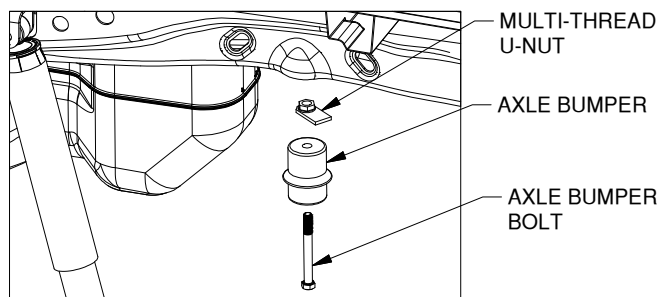

Figure A1: View looking into driver side wheel well.
2. **Remove axle bumper in trucks older than 2009.** Remove axle bumper bolt, axle bumper, and multi-thread U-nut using a 13mm socket from the underside of the frame on the driver and passenger sides of the vehicle. See Figure A1. This provides an access hole for the fish wire when installing the side plate hardware. The axle bumper and hardware will be re-attached after installation is complete.